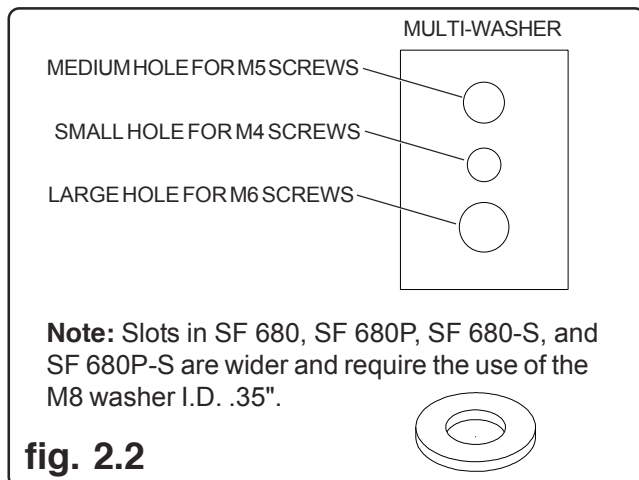

fig. 2.2
- Use the corresponding hole in the multi-washer that matches your screw size as shown in figure 2.2.